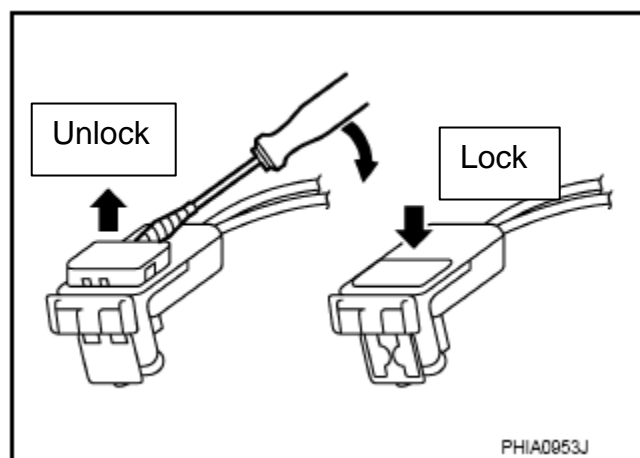

Figure 7
- Unlock and lock air bag connectors as shown in Figure 7.